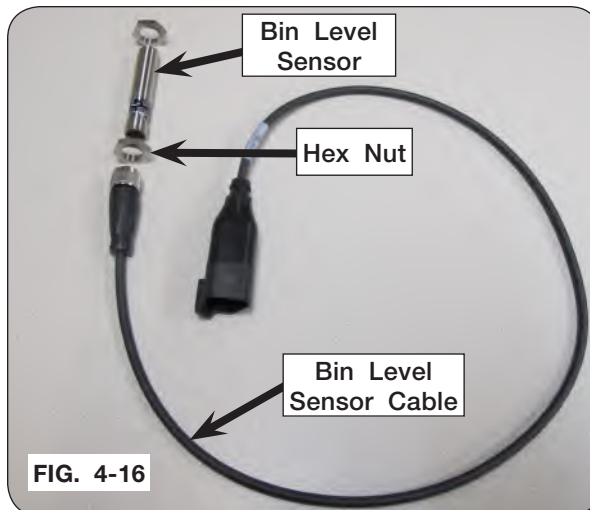

FIG. 4-16
NOTE: Fiber washer (9008810) is not shown in Figure 4-16.
8. Remove previous bin level sensor body and hardware from the spreader box. (FIG. 4-16 and 4-17)